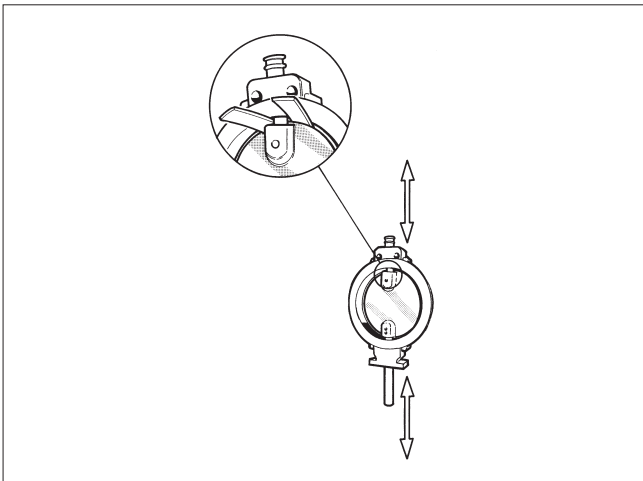

Fig. 15 Protecting the disc during disassembly and assembly
- Place rubber strips or other protection between the disc edge and the body and remove the shafts (see Fig. 15).
- Place the disc horizontally on a surface so that the flat side of the disc lays against the surface. Lift the body around the disc so that the shaft bores are aligned with the bores in the disc. Protect the disc (see Fig. 15).